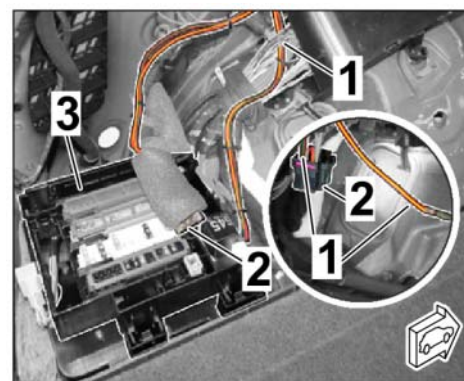

Figure 10
- 2.3.5 Route RD/GN and RD/YE lines to connector B (preparation). ⇒ *Figure 10*
Release connector B, connect lines RD/GN and RD/YE as described in Step 2.3.2. ⇒ *Figure 10-Magnifier-*